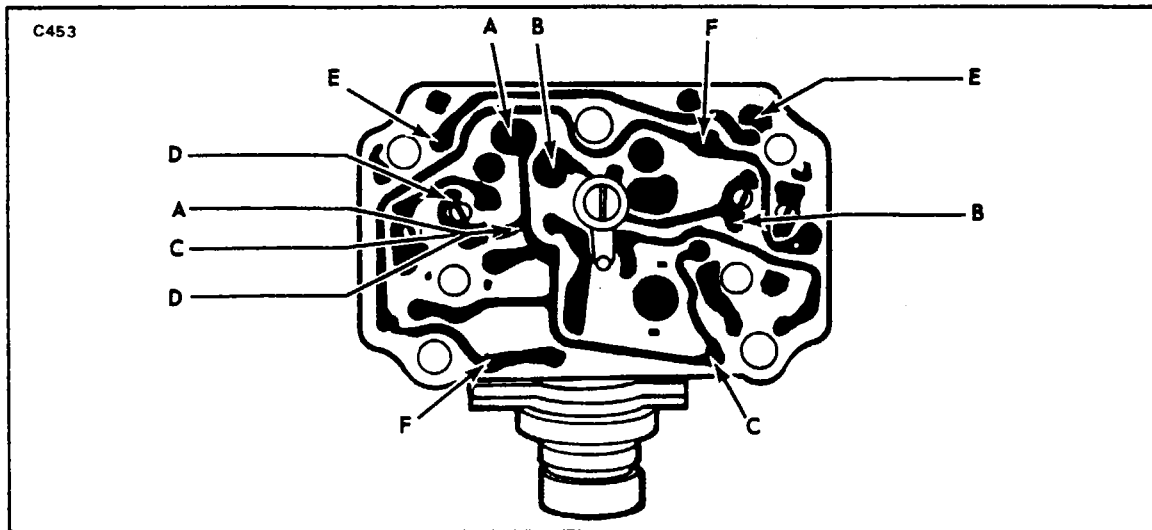

Figure 11-14. Regulator Checks
3. If reading is zero, check for a short between "NEG" and "FLD" leads, or for a grounded "FLD" lead. Circuit trace will be burned open between points A-A, B-B, or C-C, Figure 11-14.
4. If reading is low, alternator field winding is shorted. Circuit trace may be burned between points A-A, B-B, or C-C, Figure 11-14.
2. If voltage reading is zero, the "NEG" and "FLD" leads are reversed. Circuit trace will be burned open between points A-A, B-B, or C-C, Figure 11-14.
2. If meter now reads backwards, alternator field terminal is connected to regulator negative terminal, the positive line is connected to regulator field terminal, and regulator positive terminal is connected to negative side of circuit. Either the circuit trace will be burned between points C-C, D-D, or E-E, Figure 11-14, or the driver transistor will be open. In either case, the driver bias resistor will have been overheated.
1. If meter still reads backwards, the "POS" and "NEG" leads are reversed. The circuit trace may be burned between points C-C, D-D, E-E or F-F, Figure 11-14. The transient suppression diode will always be open or shorted.
2. If meter now reads zero, the positive line is connected to regulator "NEG" terminal, the negative line is connected to the regulator "FLD" terminal, and the alternator "F1" (Field) terminal is connected to the regulator "POS" terminal. The circuit trace will be burned open between points F-F, Figure 11-14.